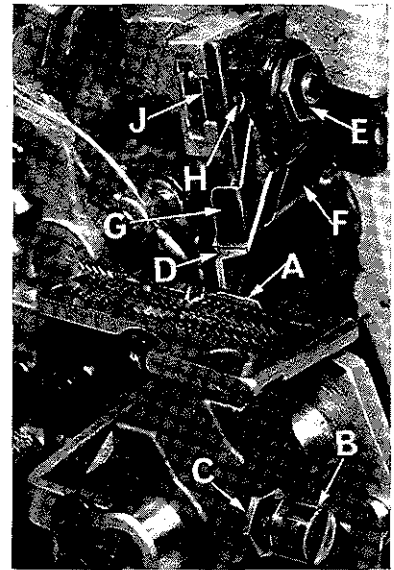

Fig. 13
Replace lower knife holder assembly. Lower knife (A, Fig. 13) should be set with cutting edge flush with throat plate surface. Adjustments are made with hexagonal head screw which holds lower knife. Lower knife is spring pressed against upper knife, so no lateral adjustment is necessary when width of trim is changed.
Replace upper knife assembly. Clamp upper knife (D, Fig. 13) in position, setting nut (E) to hold clamp (F) in its most clockwise position against upper knife. At bottom of its stroke, front cutting edge of upper knife should extend not less than  $\frac{1}{64}$  inch below cutting edge of lower knife. The chain guard (G) should be set down against the upper knife and slightly back from the cutting edge.